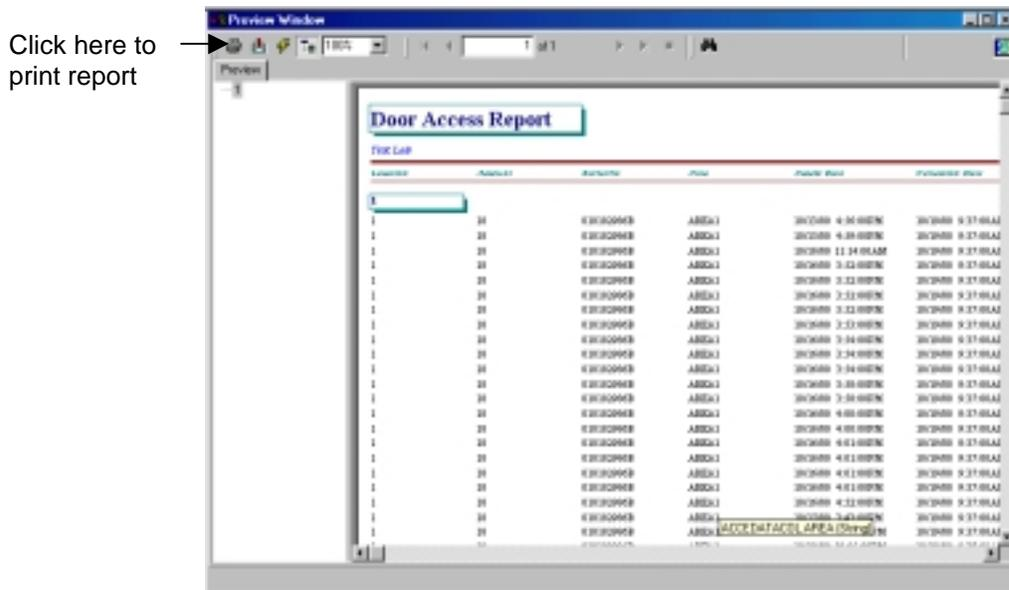

Figure 11.63 Door Access Report Window
4. The report will be generated and appear on your screen. At this time either view it on the screen, or click the printer icon to print the report (Figure 11.63).